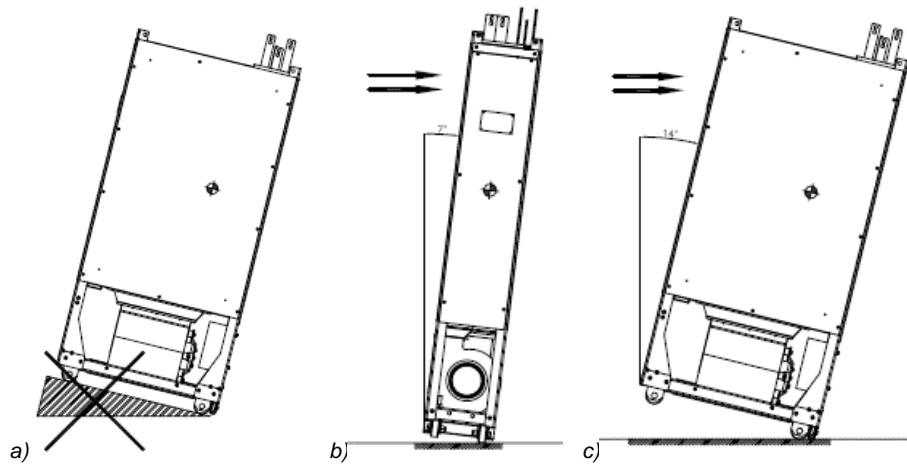

Fig. 1-3: SDx.2 – Do not left the module on a sloping floor (a) and not overpass the maximum tilting (b, c)
- Do not leave the module unattended on a sloping floor (Fig. 1-3-a)
- Do not manually tilt the drive, only do so using appropriate lifting equipment. Manually tilting the drive may result in severe injury. The maximum tilt angle is about 7° in the axis depicted in Fig. 1-3-b and 14° in the axis depicted in Fig. 1-3-c.